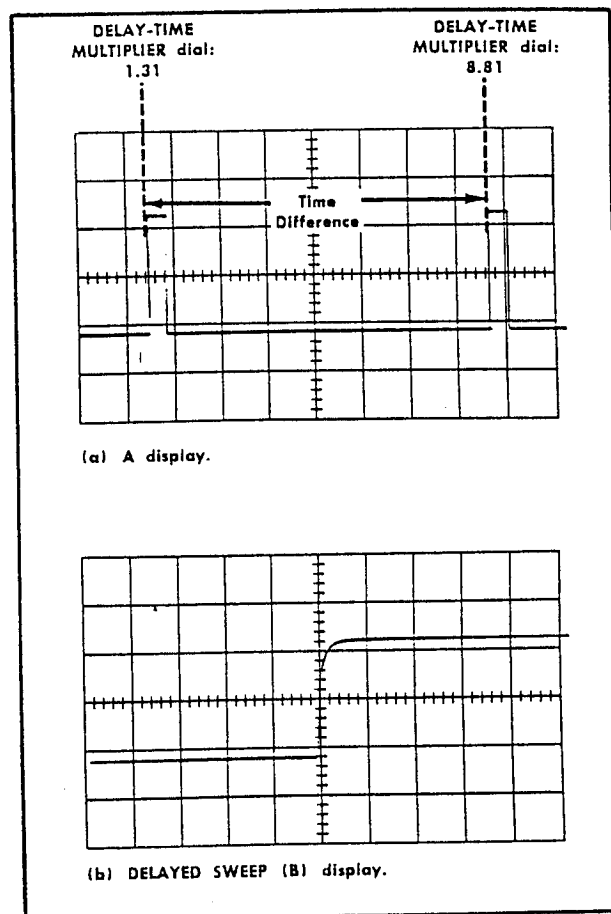

Fig. 2-19. Measuring time difference using delayed sweep.
- Set the HORIZ DISPLAY switch to DELAYED SWEEP (B).
**Example.** Assume the first dial reading is 1.31 and the second dial reading is 8.81 with the TIME/DIV switch set to 0.2 microsecond (see Fig. 2-19).